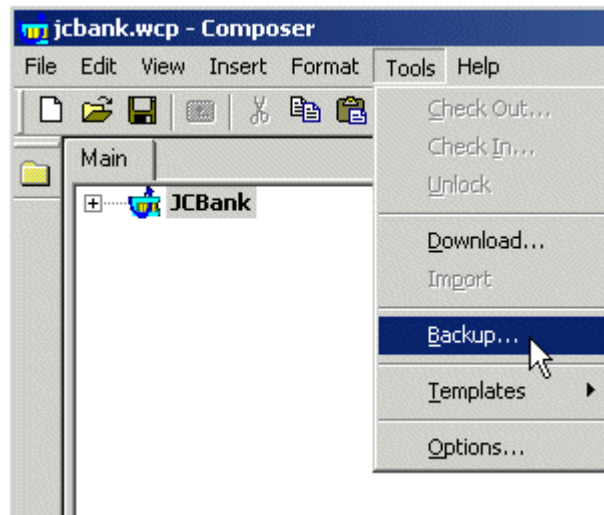

Fig. 5 Backup your project to another disk.
1. Backup your project to another disk (Tools? Backup). (See Fig. 5.)